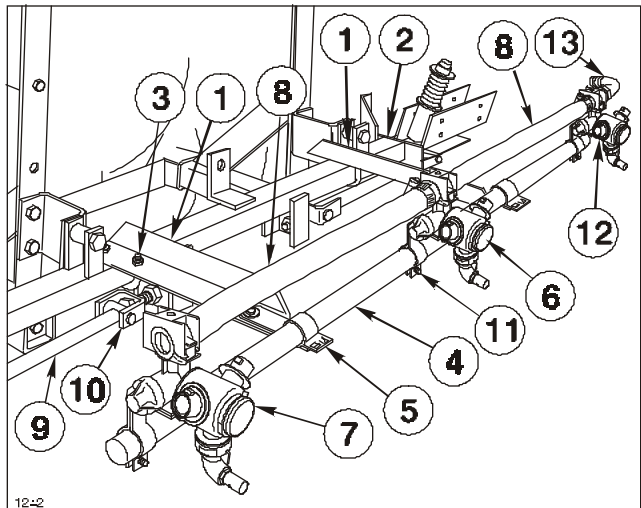

FIG. 13
7. Position the (2) Center Boom angles on the Main Frame and secure them to the Main Frame tube with (2) square U-bolts, (4) flat washers and hex nuts. See FIG. 13.
8. Center and attach the Center Boom Pipe to the two Center Boom Angles with (2) clamps, (2) 3/8" x 1" cap screws, flat washers and lock nuts. Once mounted the Center Boom Pipe should be approx. 20" (508mm) to 30" (762mm) from ground.
9. Loosely attach the Double Barb Turret Body with the Turret Body Clamp in the approximate center of the Center Boom Pipe. For the most uniform spray coverage, position all Nozzles level as shown in FIG. 13.
11. Place two Hose Clamps on two 3/4" x 19" Jumper Hoses and connect the two "end" Turret Bodies to the Double Barb Turret Body. Space nozzles 20" (508mm) apart and tighten fasteners securely. Apply thread sealer and install the 90° 3/4" Hose Barb on the Threaded Turret Body. See FIG. 13.
12. Attach the two Strut Assemblies to the two adjustable clevis' found on each side of the Main Frame tube with (2) 1/2" x 2" clevis pins and (2) 1/8" x 1" cotter pins. See FIG. 13.
17. Adjust the Booms to a level position by adjusting the jam nuts on the adjustable clevis assemblies (See FIG. 13) to the desired position, then tighten the end nuts against the Main Frame plate.
**28.** Attach a 3/4" x 50" hose to Hose Barb in bottom of Cross. Route to 90° Hose Barb at R.H. end of Center Boom Pipe. (See FIG. 13) Mark Hose and cut to proper length. Attach hose to 90° Hose Barb using hose clamp.